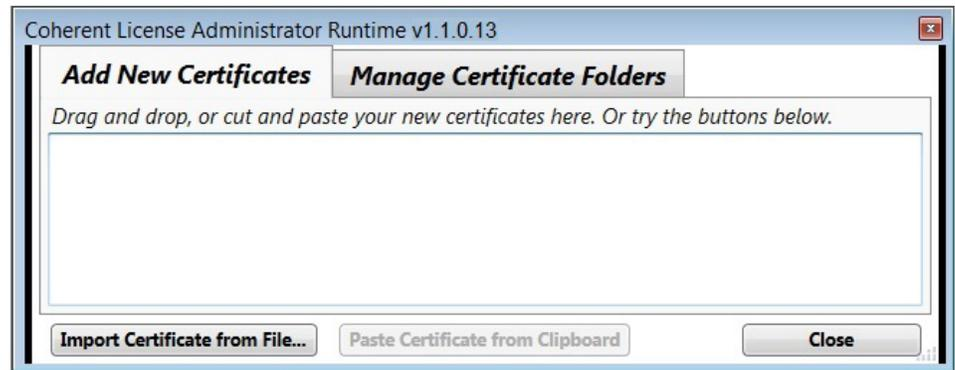

Figure 2-26. License Manager – Add New Certificate
2. The Coherent License Administrator opens with the tab selected to the “Add New Certificates” window shown in Figure 2-26: